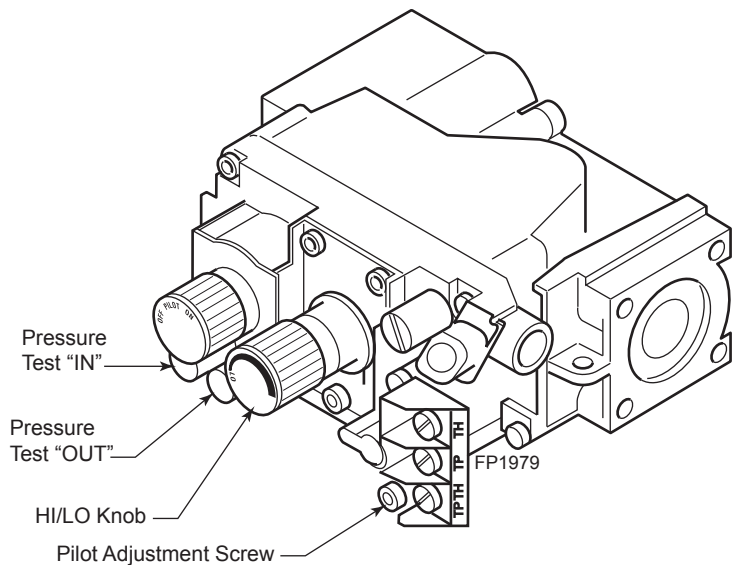

**Figure 47 -
5. To check gas pressures at valve, turn captured screw counter clockwise 2 or 3 turns and then place tubing to pressure gauge over test point. Turn unit to high. *Figure 47* After taking pressure reading, be sure and turn captured screw clockwise firmly to reseal. Do not over torque. Check test points for gas leaks.